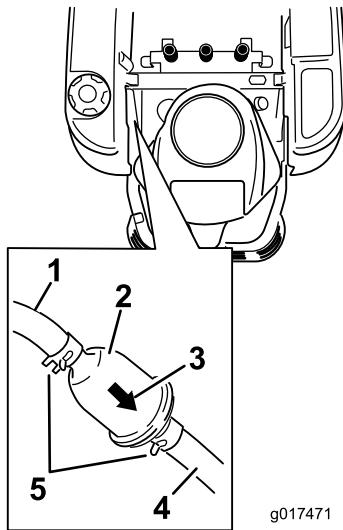

Figure 46
3. Locate the fuel filter on the side of the engine (Figure 46).
4. Squeeze the ends of the hose clamps together and slide them away from the filter (Figure 46).
7. Move the hose clamps close to the filter (Figure 46) to secure it in place.